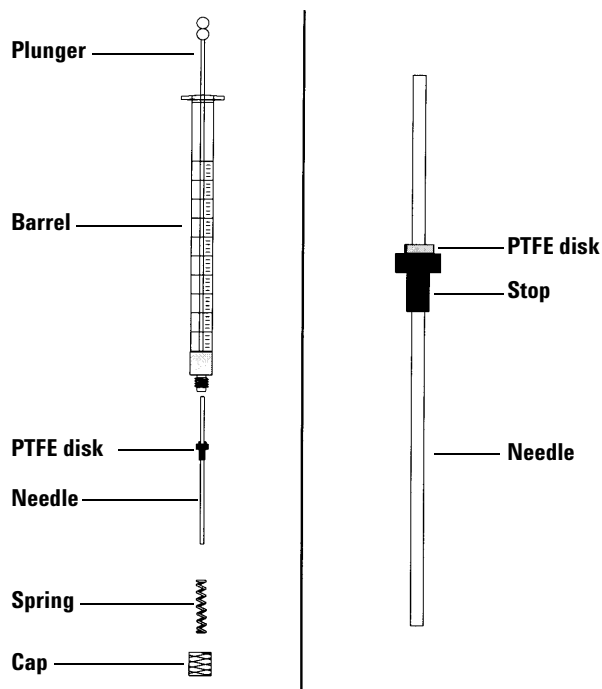

Figure 71 Syringe parts
To insert a needle into a syringe barrel (Figure 71):
- 2 Make sure the needle has a PTFE disk (Figure 71). If the syringe barrel does not have the PTFE disk, use the instructions in the syringe box to wrap the needle yourself.